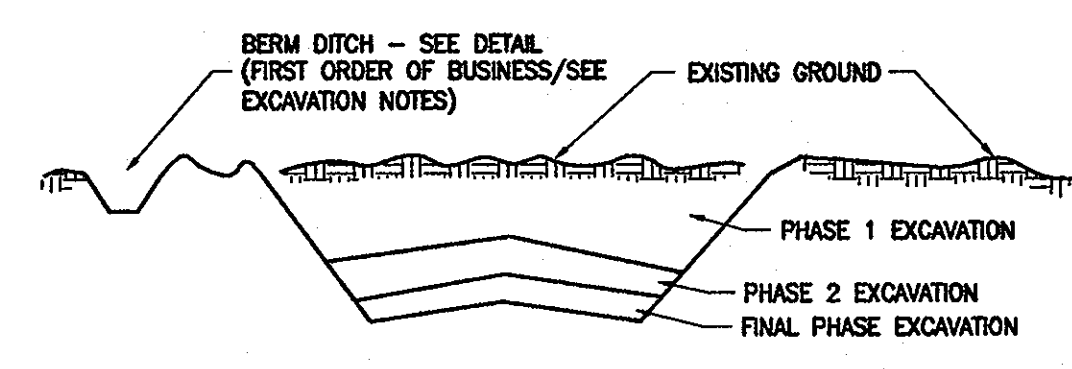

Figure 4 Incremental Stabilization - Cut
- A mulch anchoring tool is a tractor drawn implement designed to punch and anchor mulch into soil surface a minimum of two (2) inches. This practice is most effective on large areas, but is limited to flatter slopes where equipment can operate safely. If used on sloping land, this practice should be used on the contour if possible.
- Construction sequence (refer to Figure 4 below):
- Excavate and stabilize all temporary swales, side ditches, or berms that will be used to divert runoff around the fill. Construct Slope Silt Fence on low side of fill as shown in Figure 4, unless other methods shown on the plans address this area.